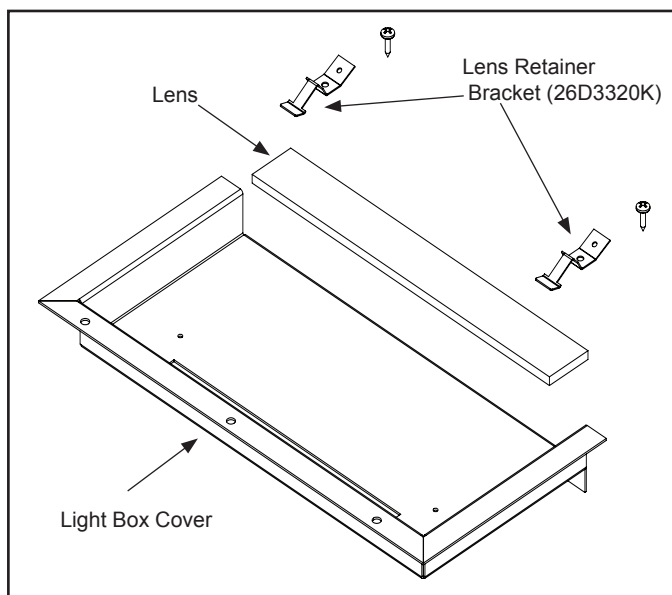

Figure 10.9 Lense Retainer Bracket Removal
- ▶ 4. The light lenses, lens retainer brackets and screws are included in the Homeowner's Manual packet. Install the light lenses into the light cover box and secure with the lens retainer brackets and screws as shown in Figure 10.9.